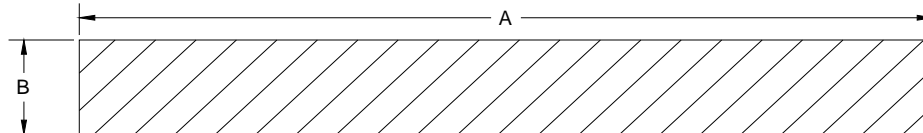

Figure 3:
3. Verify location / dimension Arche-Duct opening (see Figure 3 & Table I).